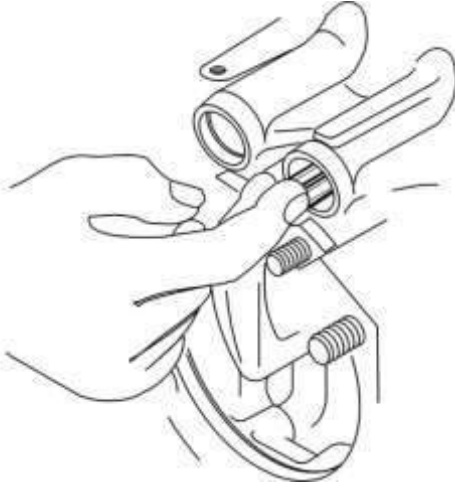

Figure 11
(1) Remove the hydraulic tappet plungers using the Tappet Assembly Tool P/N 64941.
(2) Remove the push rod socket (Figure 11) by placing heavy grease on the ball end of the Tappet Assembly Tool. Push the greased ball end of the Tappet Assembly Tool into the socket and withdraw it. The socket will adhere to the grease.
- (3) Push the hollow end of the Tappet Assembly Tool over the hydraulic tappet plunger and withdraw the plunger.